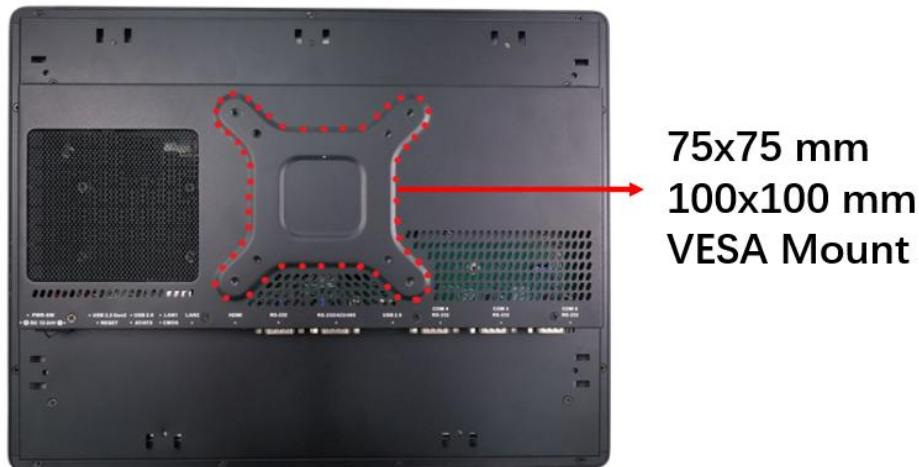

Figure 3-27: Arm Mounting Retention Screw Holes
Step 3: Align the retention screw holes on the mounting arm interface with those in the PPC2-Cxxx-EHL Series panel PC. The arm mounting retention screw holes of the PPC2-Cxxx-EHL Series panel PC are shown in **Figure 3-27**.